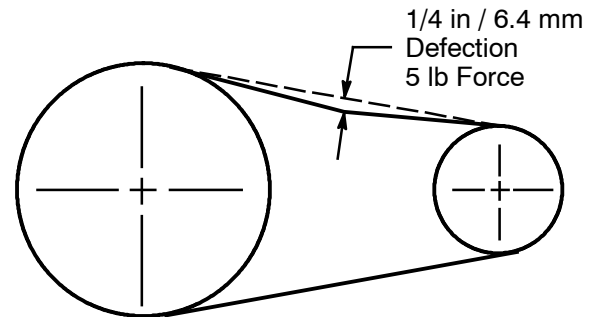
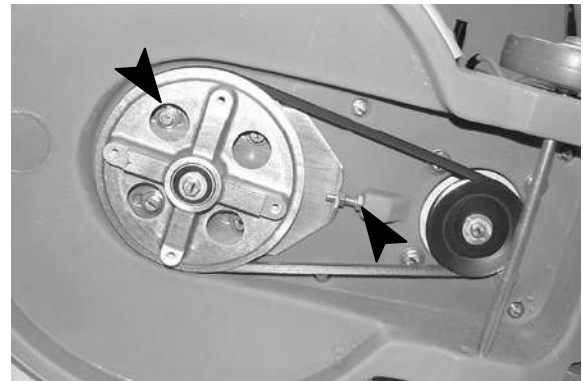

FIG. 7
FIG. 8
7. Once a month, check the tension of the drive belt. At mid- point of belt, the belt tension should have a 1/4 in / 6.4 mm deflection at 5 lb of force (Figure 7). To tighten belt, remove the pad driver and loosen the (4) pad driver pulley bracket hex head screws. Loosen the jam nut on the tension bolt and turn bolt clockwise until belt is properly adjusted, then retighten the pulley bracket screws and jam nut (Figure 8).